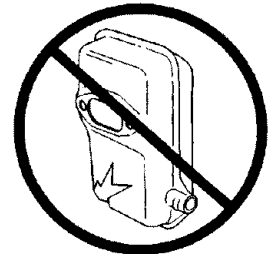

Fig.5
- Always check that the muffler is not damaged or corroded. A worn or damaged muffler may produce sparks or flame and is dangerous.(Fig.5)